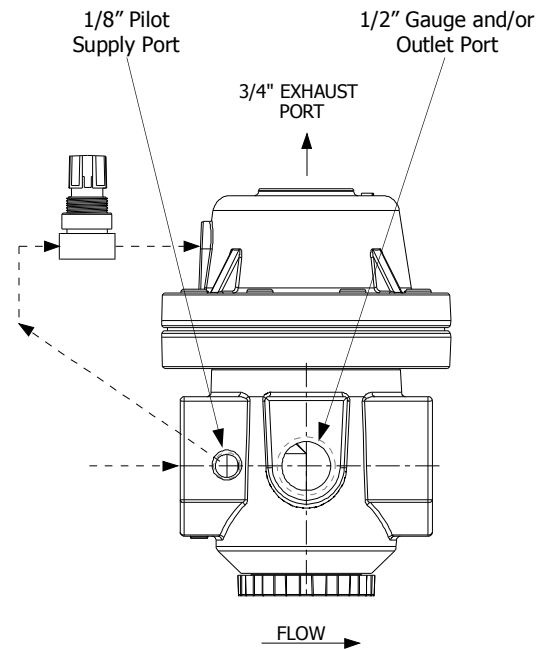

Figure 1.
8. The Control Regulator can be installed at a distance from the HPR180 Regulator for ease of adjustment. Connect the Inlet of the Control Regulator to the 1/8" Pilot Supply Port. Connect the Outlet of the Control Regulator to the Dome Port located on the side of the Dome facing the Inlet Port. See Figure 1.